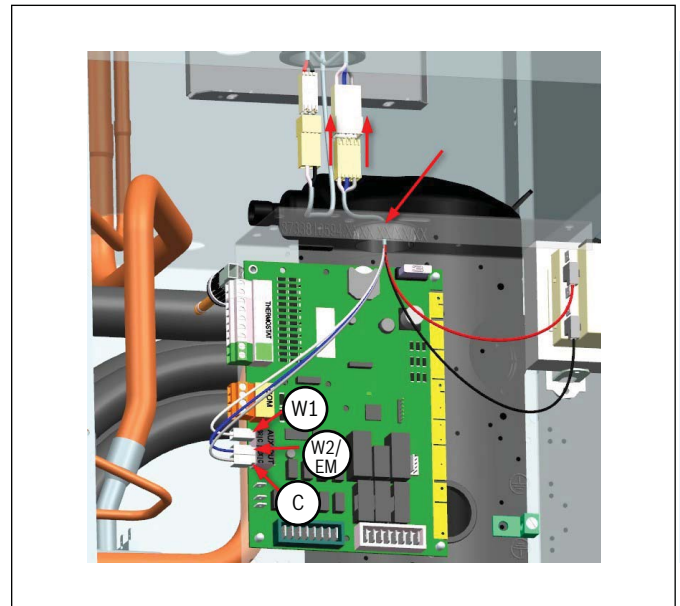

Figure 38
8. Continuing with the EH wiring harness, take the loose white, blue and grey wires (W1 and W2 and C), and feed them through the same hole into the unit control box. Connect wire labeled W1 to SR, W2/EM TO AUX and C to C respective terminals on the HPC as shown in figure 38 below.